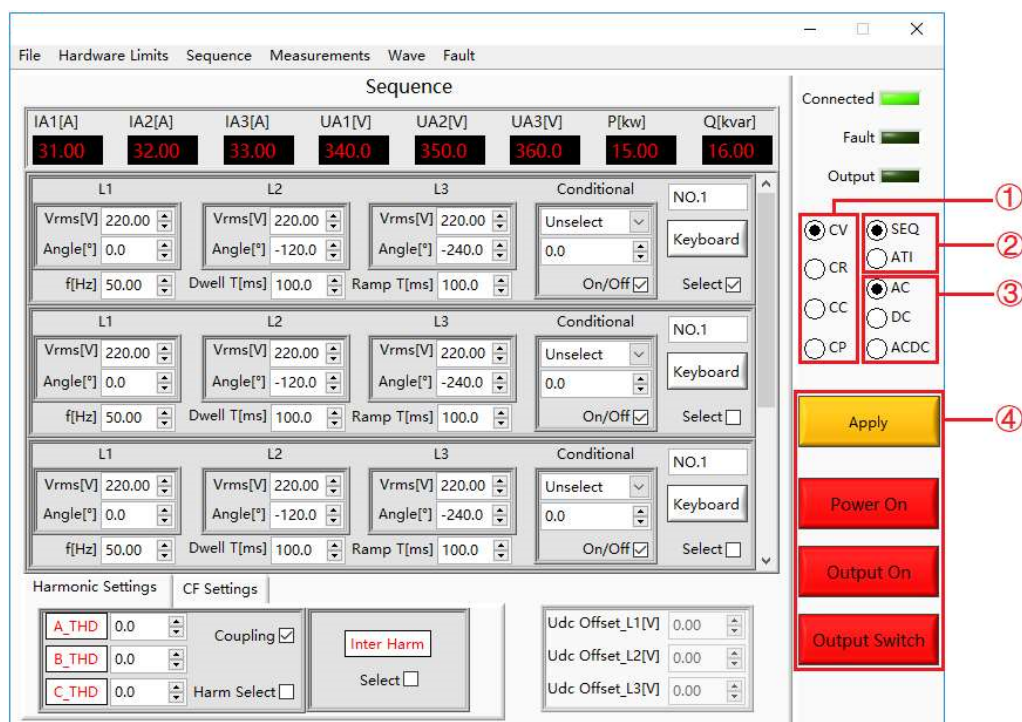

Figure 5-2 Sequence Mode and input/output control
①	Connect	A few seconds after the power supply is initialized, the TFT-Touch panel displayer works, the green light is always on when the software and the equipment are connected normally. If the connection fails, please check whether the AC source is normally powered, the communication cable is connected normally, or the IP address of computer is 192.168.1.2.
②	Fault	The red light indicates the equipment automatically stops working when a fault occurs during operation. If the equipment runs in normal, the light is dark green.
③	Output	When equipment is operating normally and output AC/DC, the green light is always on. When the equipment has no output, the light is dark green.
On the right side of the sequence mode Panel, the user can select the power supply operating mode, parameter input mode and output mode according to the test requirements (Figure 5-2①②③).